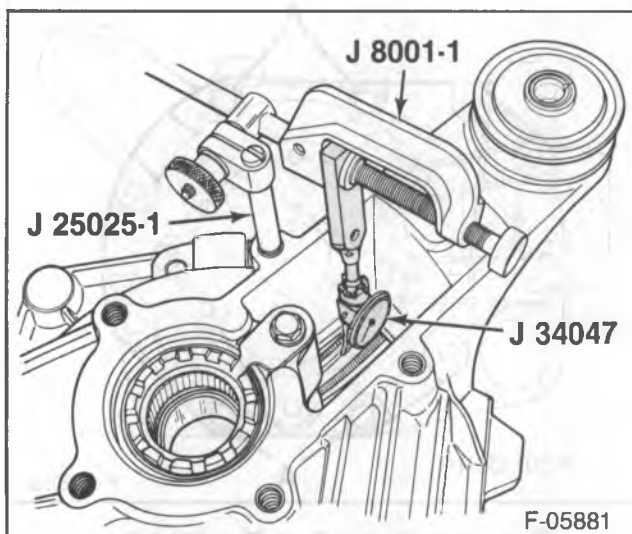

Figure 27—Measuring Backlash at the Ring Gear
8. Install J 34047, J 25025-1 and J 8001-1 (figure 27).